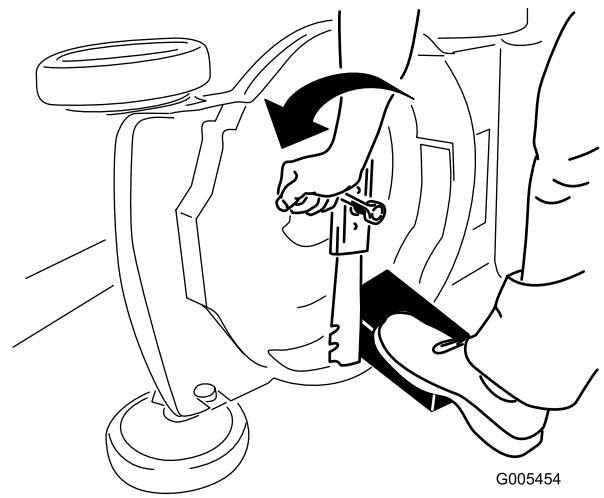

Figure 20
4. Remove the blade, saving all mounting hardware (Figure 20).
3. Use a block of wood to hold the blade steady (Figure 20).